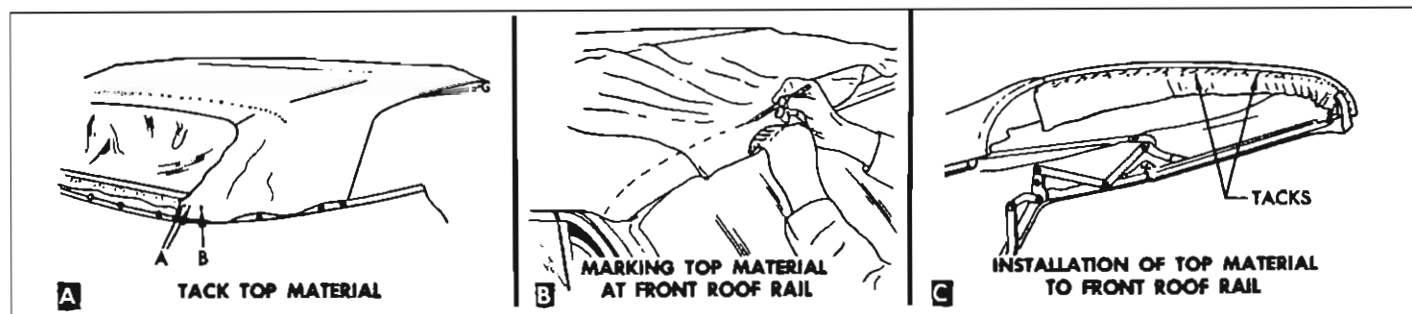

Fig. 37—Fitting the Replacement Top
37. Using previously marked lines (ends of trim stick) as locating reference, tack top material to rear and rear quarter trim sticks. "A" in Figure 37, A shows top material installed to rear trim stick at inboard edge.
48. At front roof rail, pull top trim material forward to desired tension. While maintaining tension on top trim, place a pencil mark on outer surface of trim material along forward edge of front roof rail (fig. 37, B).
49. Unhook top from windshield header and apply neoprene-type weatherstrip adhesive to tacking area of front roof rail. Pull top trim material slightly forward so that pencil marks are forward of front edge of front roof rail. Fasten top trim to cemented area and stay tack trim to rail (fig. 37, C).